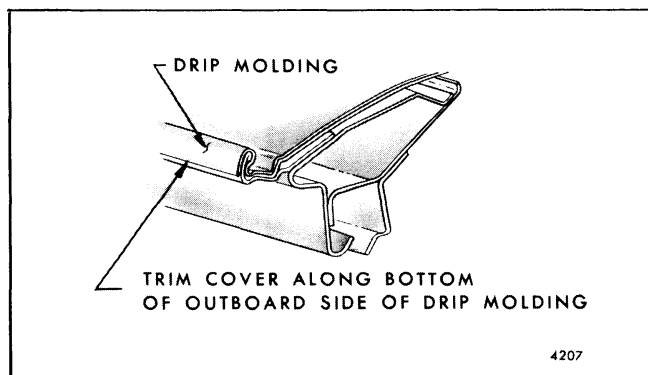

Fig. 8-25-Trimming Fabric Roof Cover at Drip Molding Area
- a. On "X" styles, cement cover into and around outboard side of drip molding and trim cover along outside bottom edge of molding (Fig. 8-25).